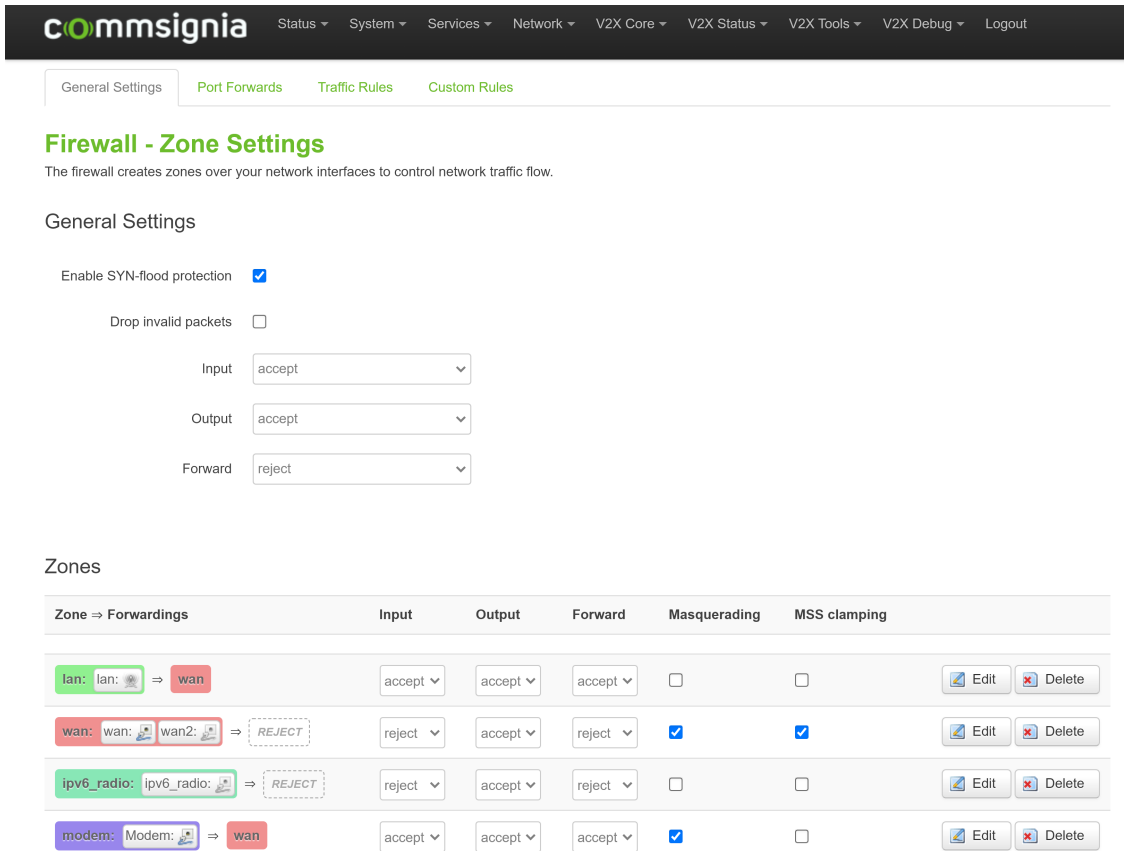

Figure 49. Firewall settings
- a. To edit the IPv6 zone, open the **Network** → **Firewall** menu item, as shown in Figure 49, and under the Zones section, the line of **ipv6\_radio**: click on  Edit .